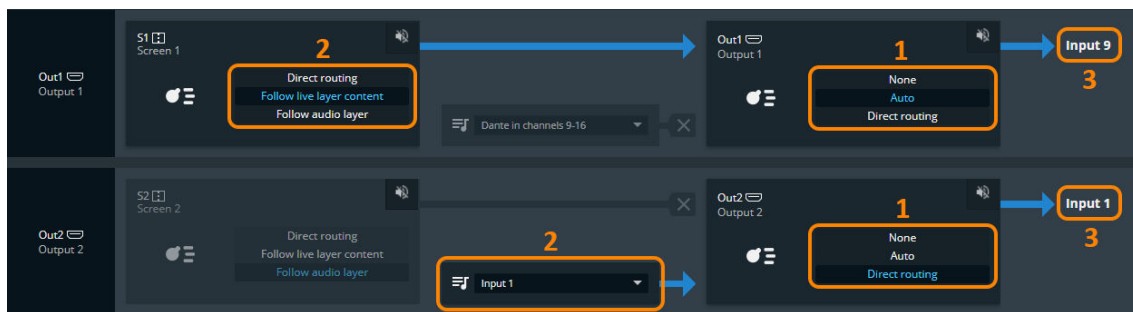

Fig. 30 - Audio concept
2. Set an output audio mode on **Direct routing** (step 1 on Fig. 30 - Audio concept page 104).
2. Set an output audio mode on **Auto** (step 1 on *Fig. 30 - Audio concept* page 104).
2. Set **Output 1** audio mode on **Auto** (step 1 on *Fig. 30 - Audio concept* page 104).